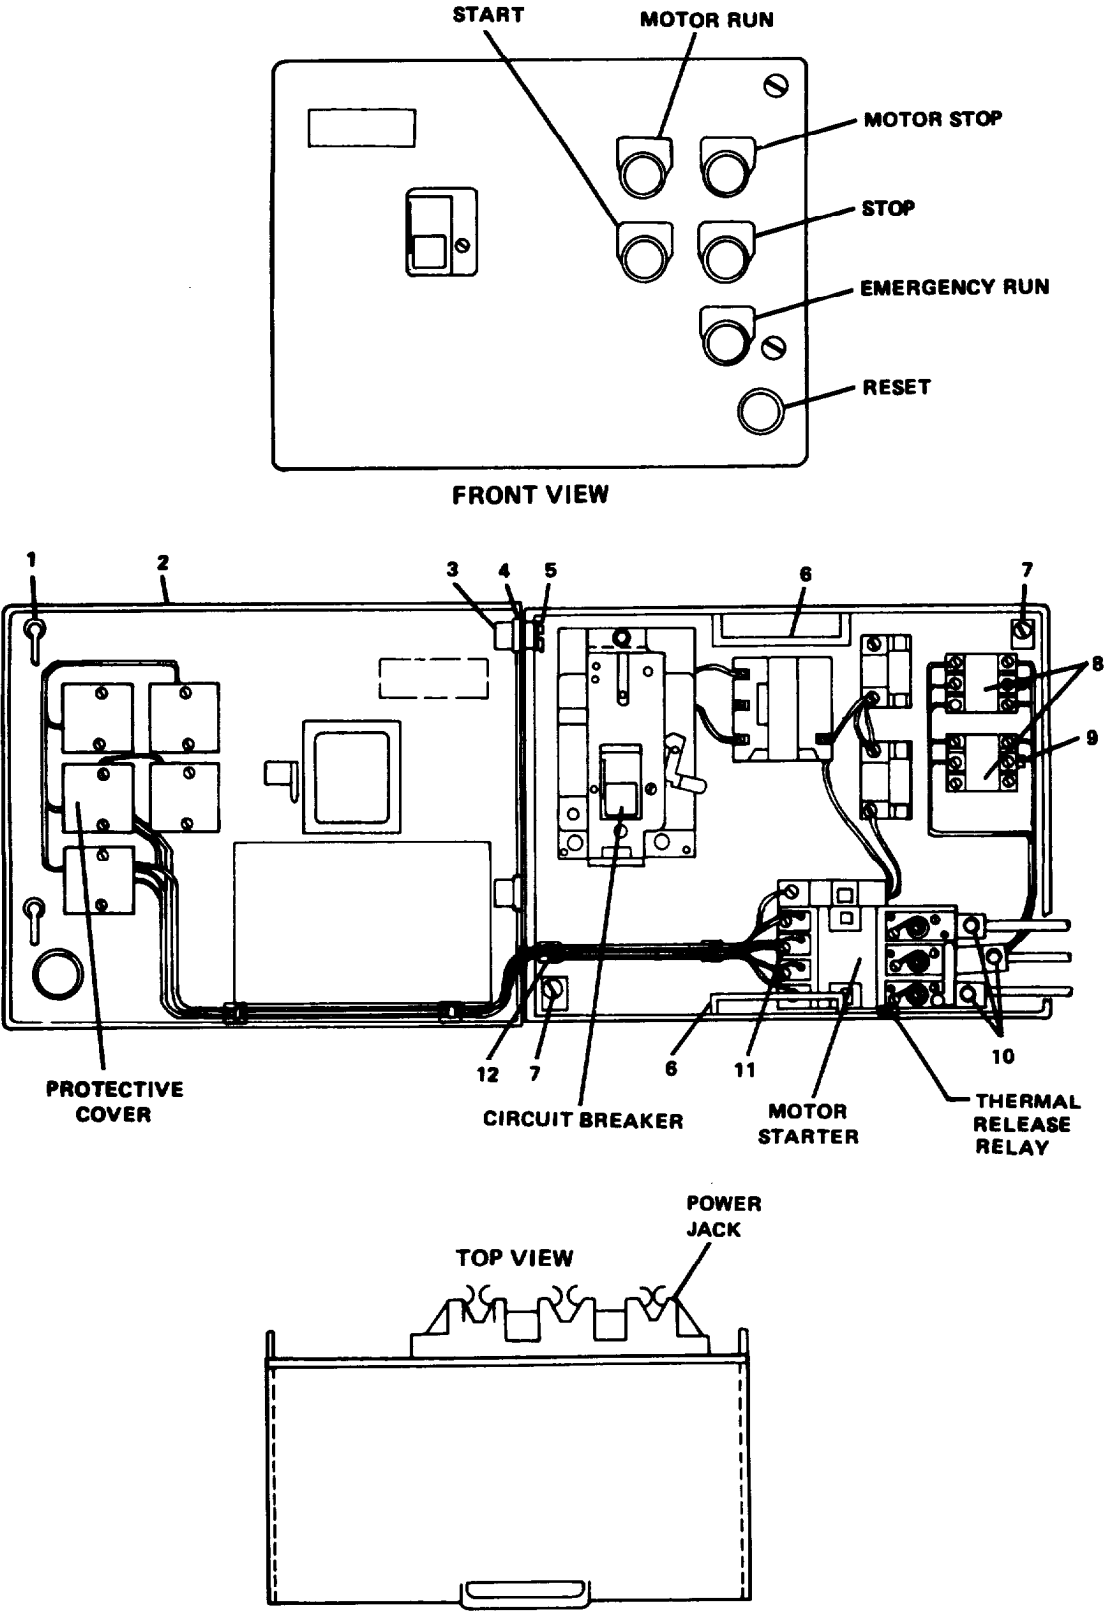

FIGURE 2-192. Motor Controller (Emergency Lube Oil Prelube Pump).
**2-222. Replace Motor Controller, Emergency Lube Oil Prelube Pump. (FIGURE 2-192).**